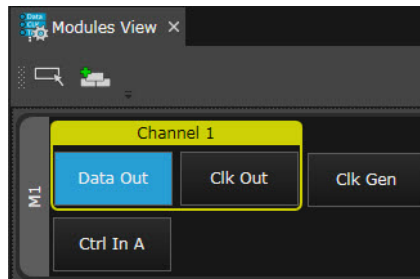

Figure 23 Select Channel 1 DataOut
- 8 Click on **Channel 1** > **Data Out** corresponding to the M8045A (M1) as shown in Figure 23 on page -51.